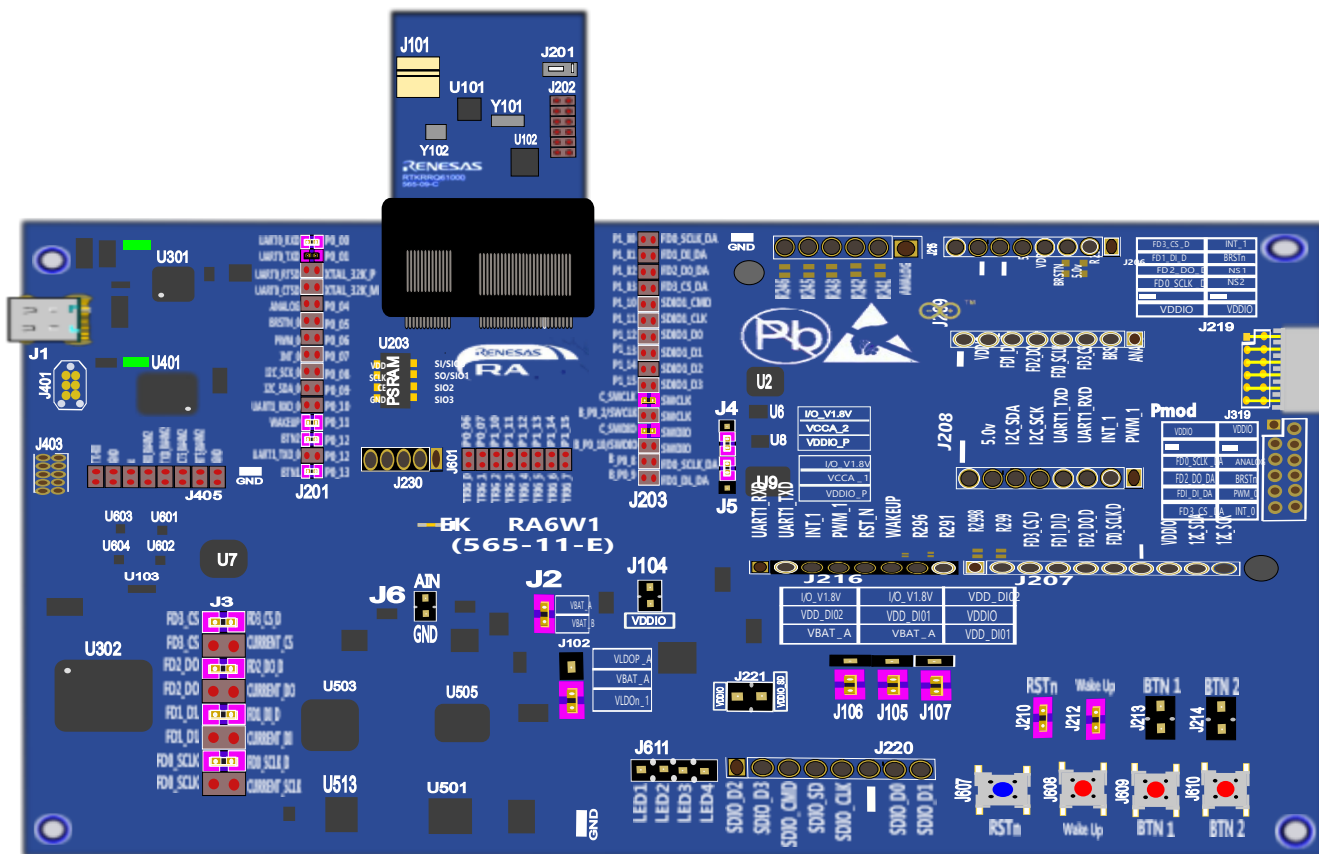

Figure 102. RA6W1 EVK hardware
- Hardware: RA6W1 EVK, see Figure 102.